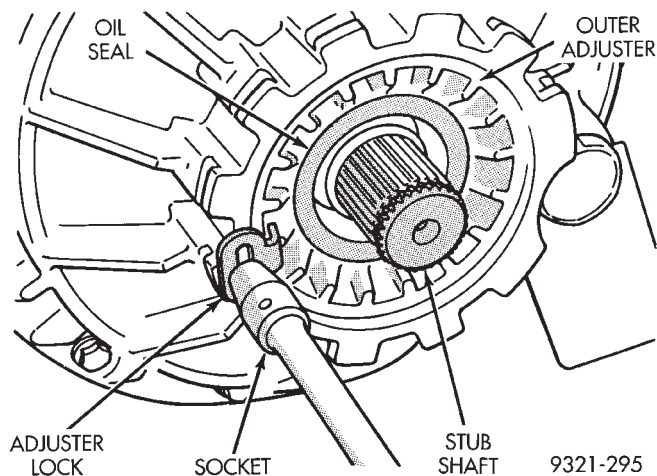

Fig. 64 Outer Adjuster Lock Removal
- (4) Remove Outer adjuster lock (Fig. 64).